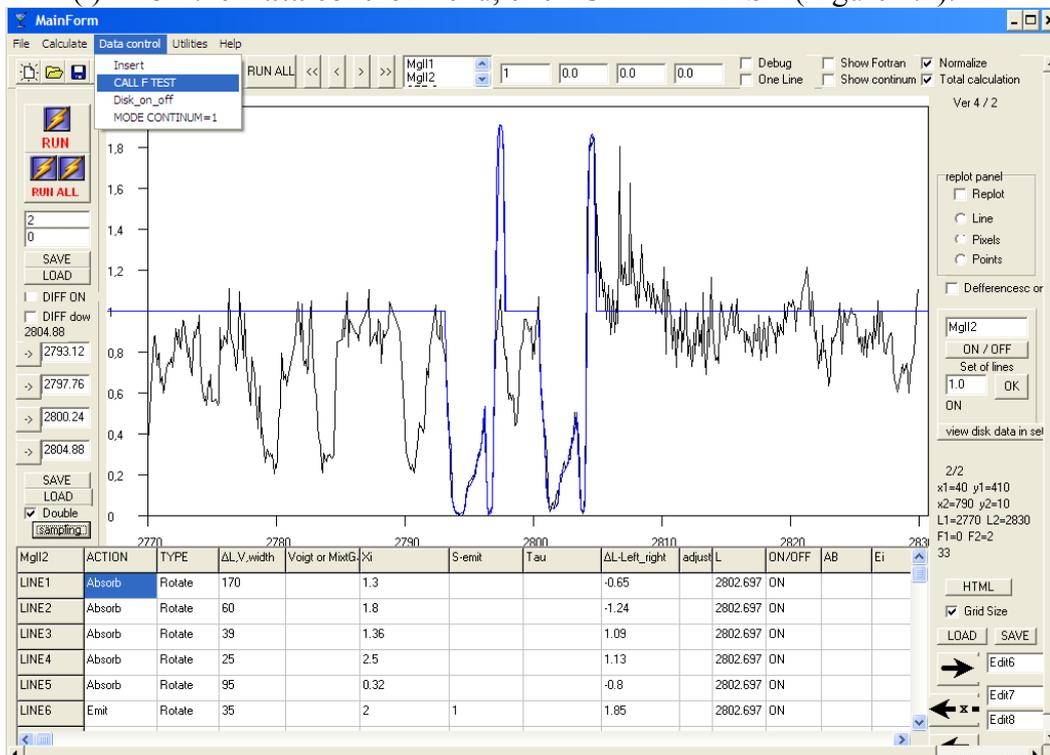

Figure 4.4
- (l) On the **Data control** menu, click **CALL F TEST** (Figure 4.4).
(g) On the **Data control** menu, click **CALL F TEST** (Figure 4.4).